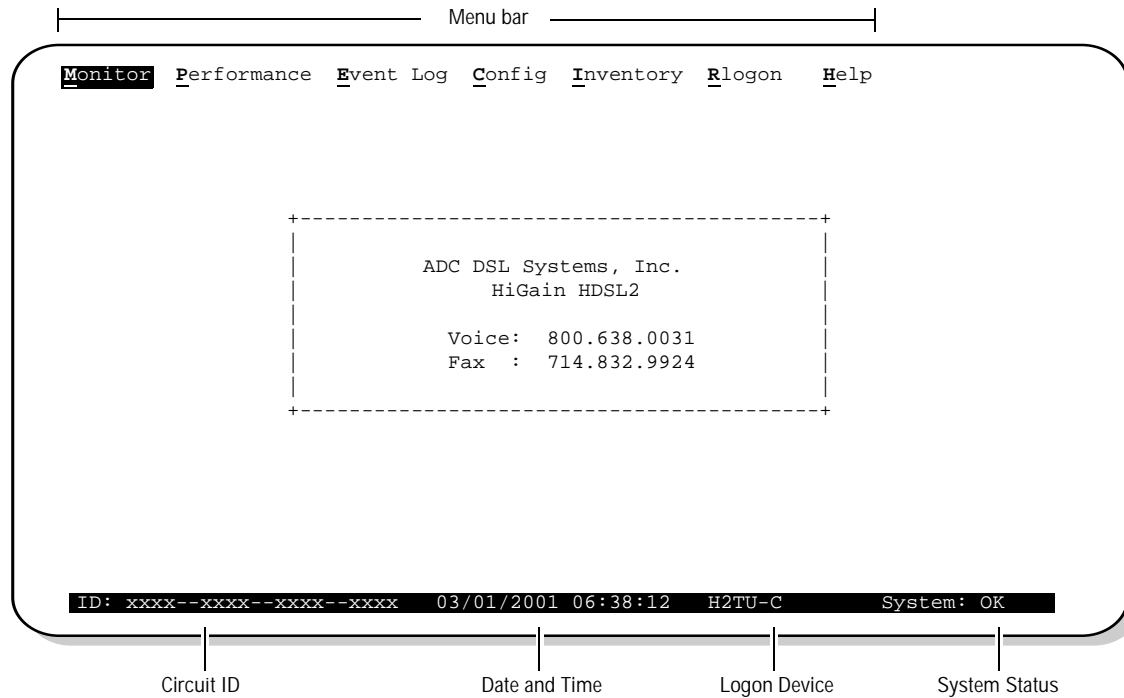

Figure 4. Logon Screen
- Use a maintenance terminal, such as an ASCII terminal or a PC running terminal emulation software connected to the H2TU-C craft port or an HMU craft port, to access the maintenance screens. Figure 4 on page 14 shows the maintenance screen. This provides full access to all H2TU-C status, history, inventory, and provisioning screens.
To select a menu from the HiGain HDSL2 logon screen, shown in Figure 4 on page 14, do one of the following: